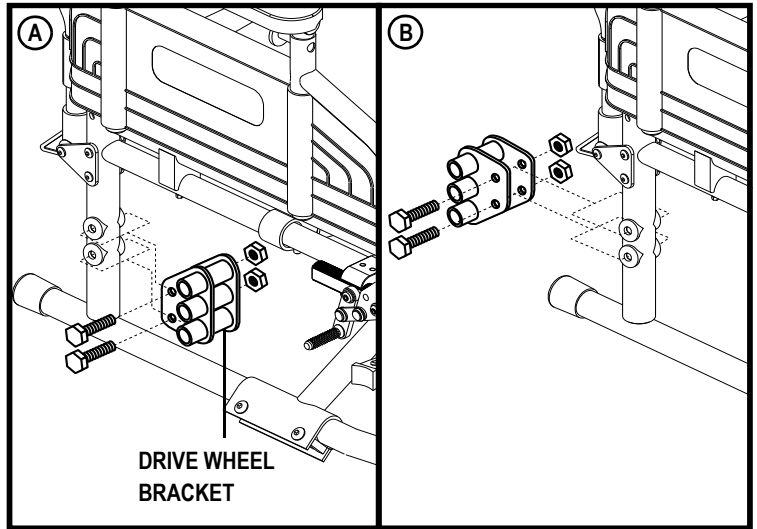

Figure 13. Drive Wheel Position Adjustment
3. Remove the hardware that fastens the drive wheel bracket to the frame. See **figure 13**.